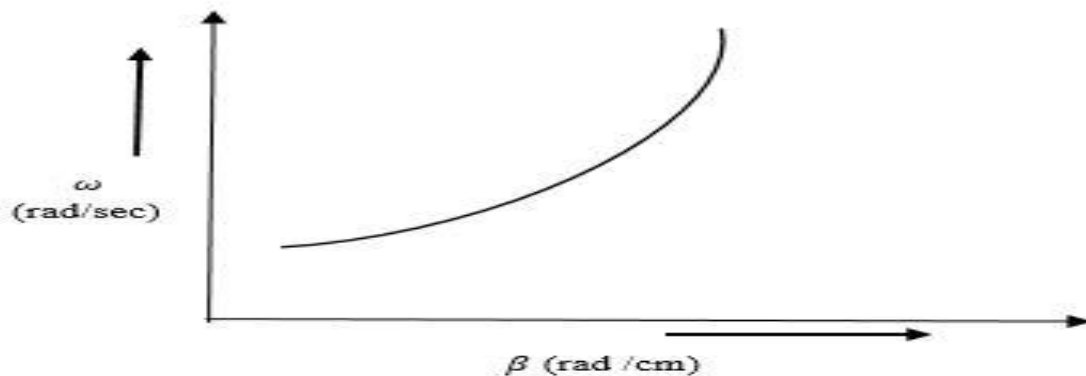

Fig 1.1. Wave propagation characteristics curve
7. Plot the graph between ' ω ' & ' β ' and verify the wave propagation characteristics from Fig 1.1.